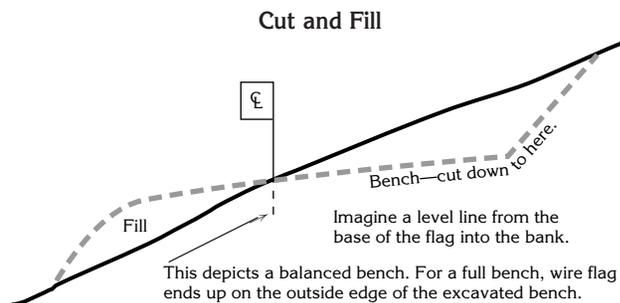

Figure 11—Basic sidehill trail building.
- For a balanced bench trail, the point where the wire flag enters the ground is the finished grade. Scratch a line between flags to keep yourself on course. Facing the uphill slope, begin digging about 150 mm (6 in) from the flag cutting back into the slope. Imagine a level line drawn from the base of the flag into the bank. Dig into the bank down to this line, but not below (Figure 11). Pull the excavated material to the outer edge. Tamp this fill material as you go. On a full-bench trail, the wire flag essentially ends up at the outside edge of the trail. For less than a full-bench trail, the flag ends up somewhere between the centerline and outside edge. Keep this in mind when you place the wire flags.